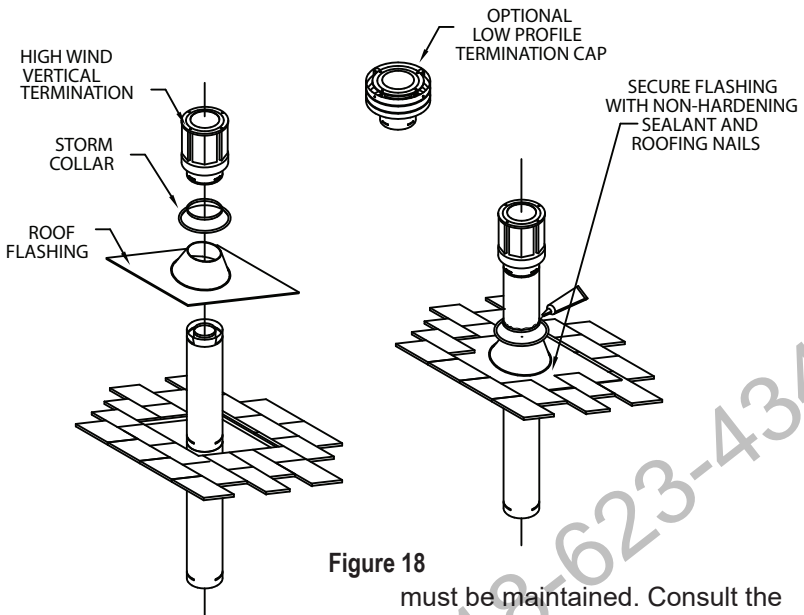

Figure 18
Step 9. Slip the Storm Collar over the Pipe Section, and push it down to the top of the Roof Flashing (Fig. 18). Use non-hardening sealant between the Storm Collar and the Pipe Section.